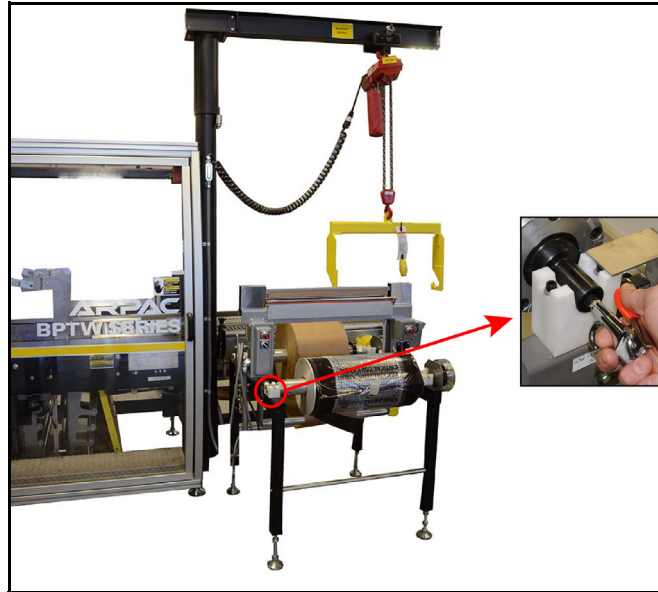

Figure 4-36 - Releasing Shaft Air Pressure
3. Insert air nozzle into film shaft to release air from shaft. Don't press the nozzle's lever to add air – just press the nozzle tip against the shaft valve to release the air in the shaft. This air pressure in the shaft activates a clamp that clamps the shaft to the roll. The purpose of this step is to release this pressure so that the roll can be slid off of the shaft (*Figure 4-36*).